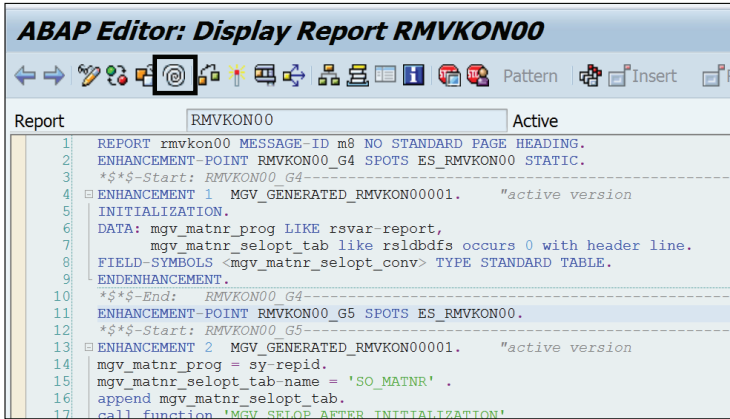

Figure 20.52 Enhancement Button
1. Open the standard SAP program that you want to enhance in display mode. Click on the seashell icon in the application toolbar, as shown in Figure 20.52. This will enable the program to change or implement enhancements.